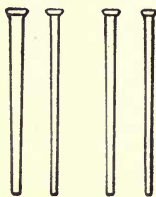

FIG. 108.—Cut
**293. Nails.**—The most popular of all fastening agents is the nail. There are two common forms: wire nails (Fig. 107) and cut nails (Fig. 108). The wire nail is made of a cylindrical piece of wire, with one end sharpened to a point, and the other end flattened into a head. The wire nail is valuable because of its holding power and because it will not split the wood. A disadvantage is that it will bend unless hit squarely on the head.